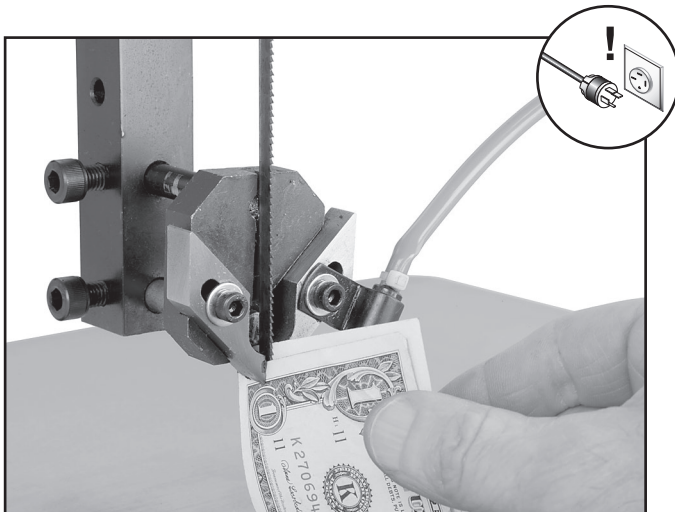

Figure 24. Using a dollar bill to set blade guide spacing.
- Fold a crisp dollar bill in half and place it over the blade (between the blade guides and the blade), as shown in **Figure 24**.